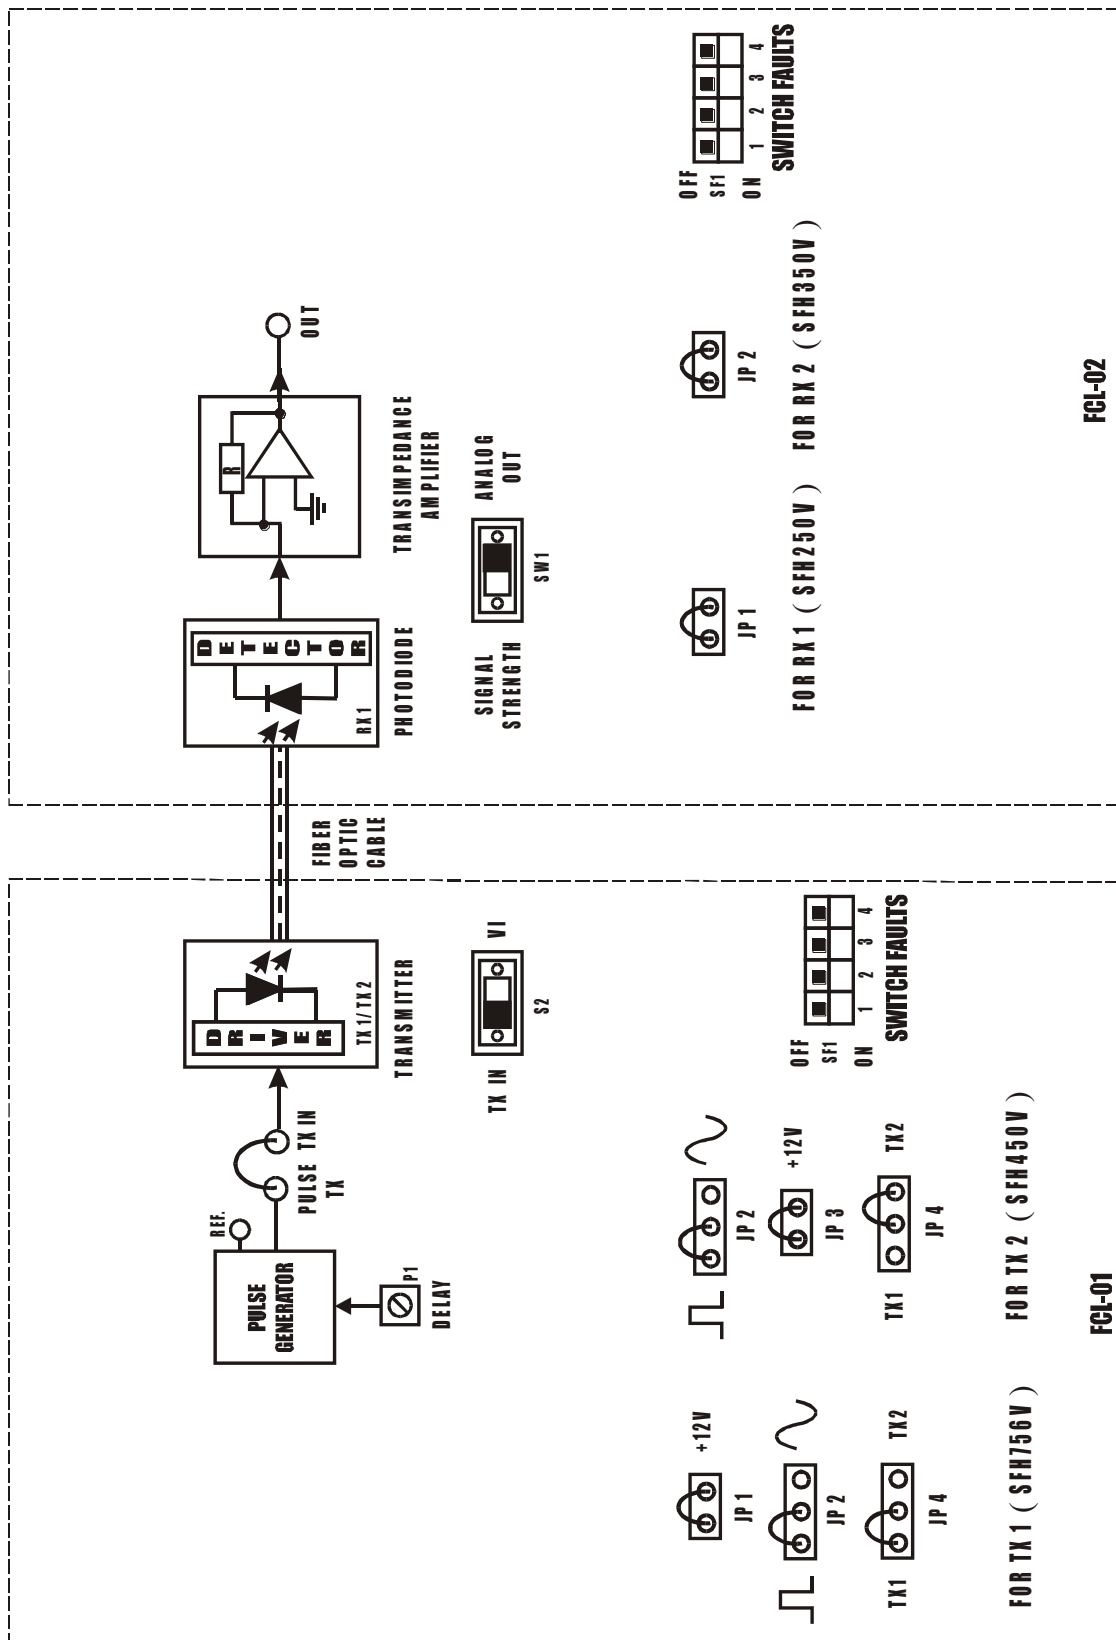

FIG. 12.1 BLOCK DIAGRAM FOR LENGTH MEASUREMENT OF FIBER CABLE
- Refer to fig 12.1 and make the following connections.
- Keep the jumpers **JP1, JP2, JP3 & JP4** on FCL-01 as shown in fig.12.1.
- Keep the jumpers **JP1 & JP2** on FCL-02 as shown in fig.12.1.